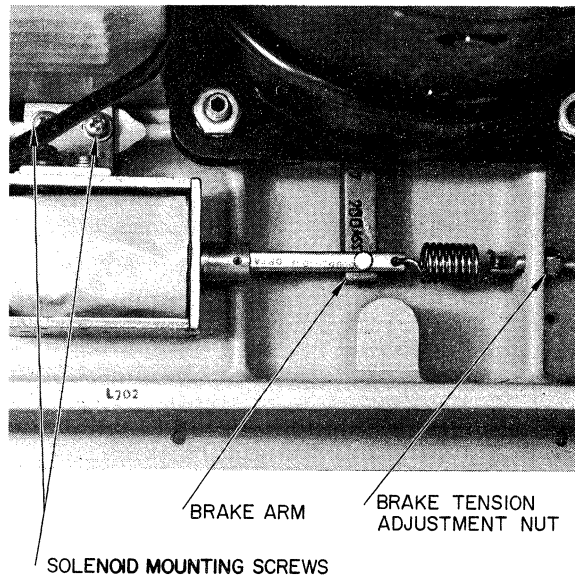

Fig. 4.4
Step 2. If the differences in positions is incorrect loosen the two screws which hold the brake solenoid, Fig 4.4, and move the solenoid to a new position. Repeat steps 1 and 2.